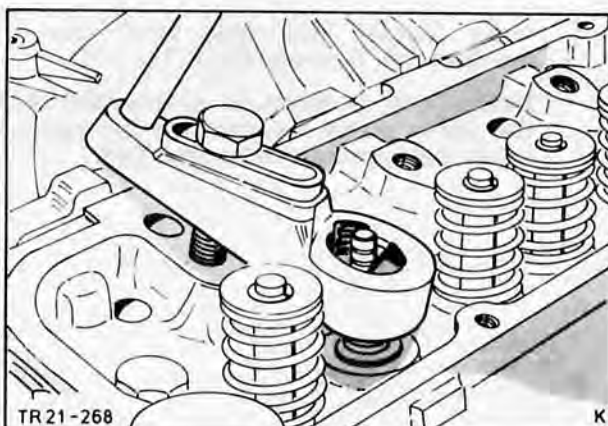

Fig. 181. Remove collets
5. Press valve spring down, remove collets, Fig. 181, and release pressure on spring. Remove valve spring retainer, valve spring and valve stem seal.